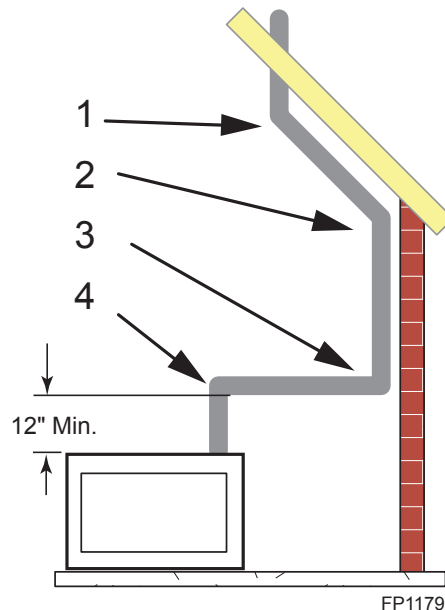

Figure 19 - Maximum Elbow Usage
- Two sets of 45° elbows offsets may be used within the vertical sections. From 0 to a maximum of 8' (2.5 m) of vent pipe can be used between elbows. *Figure 19*
- The maximum angular variation allowed in the system is 270°. *Figure 19*
NOTE: Pay special attention to these installation instructions for required clearances (air space) to combustibles when passing through ceilings, walls, roofs, enclosures, attic rafters, etc. Do not pack air spaces with insulation. Also note maximum vertical rise of the venting system and any maximum horizontal offset limitations. Offsets must fall within the parameters shown in Figures 19 and 20.